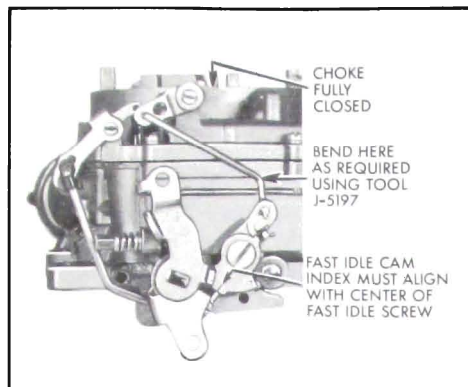

Figure 3-78—Fast Idle Cam Adjustment
4. Adjust Fast Idle Cam Position. With choke valve held fully closed, open throttle slightly to allow fast idle cam to spring to a neutral position. Now index mark on fast idle cam must align with center of fast idle screw. If mark does not align, bend fast idle rod using Tool J-5197 as required to make mark align. See Figure 3-78.